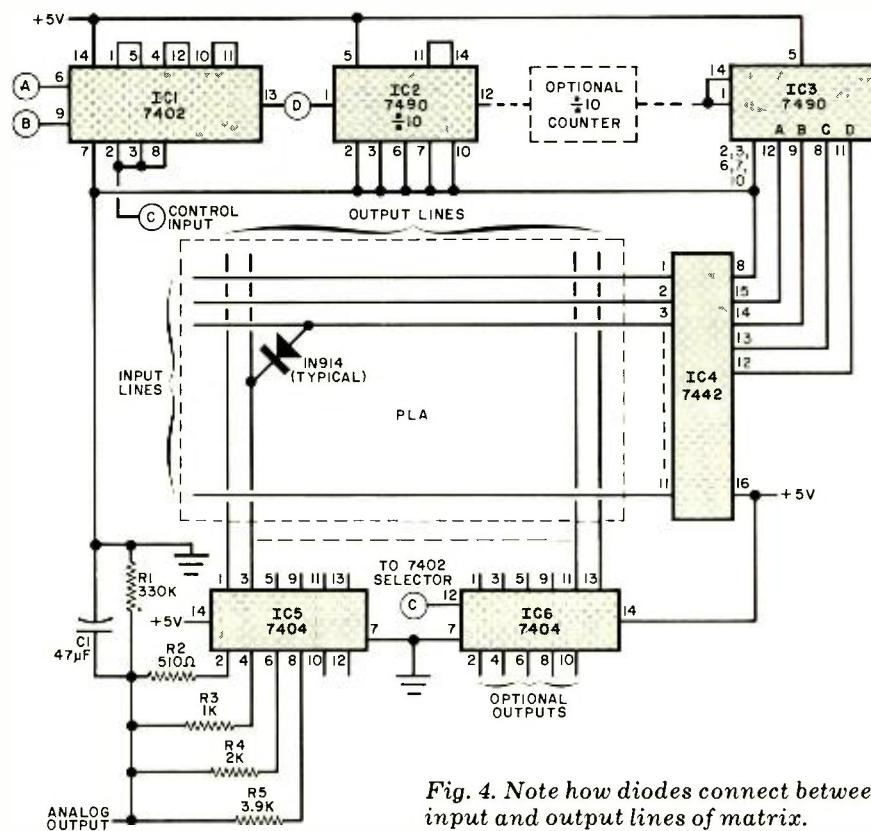

Fig. 4. Note how diodes connect between input and output lines of matrix.
The main circuit shown in Fig. 4, accepts the selected clock output from IC1 and drives one or more decade counters
can be used to drive other TTL devices, relay drivers, or, in the case shown in Fig. 4, a simple D/A converter that can be used to create various output wave-shapes.
The heart of the system is the diode matrix PLA that uses conventional silicon diodes (such as the 1N914) to form the matrix. In the prototype, a commercial pc board with a built-in 18 x 18 matrix of press-in terminals was used, although one can be built of conventional "flea clips" (or similar) with each horizontal (input) row interconnected and wired to its pin on IC4. Each vertical (output) column is built in a similar fashion and connected to the IC5-IC6 inputs. The selected diode clips should be capable of accepting the diode leads. The diodes are installed as shown in the matrix of Fig. 4.
The simple D/A converter shown in Fig. 4 consists of four resistors (although more can be added as the matrix is enlarged) that sum across R1. The voltage developed across these resistors is dependent on the placement of the diodes in the matrix. The square wave generated across R1 is smoothed by C1. The value of C1 can be changed as desired, or any other method of filtering can be used.
Oscilloscope photo (A) shows the output of the digital/analog converter with C_1 (Fig. 4) removed at a frequency of 8 Hz. With C_1 in, the output would form a sine wave such as that shown at (B). More elaborate filtering will smooth out the sharp edges. Waveform (C) shows how the PLA controls its own clock frequency. The first pulses are about 8 Hz followed by a 2.5-second delay until triggered again. Photo (D) is the PLA controlling its own frequency. The peaks inside the pulse are all 8-Hz rate, while the next pulse will not occur for more than 2 seconds.